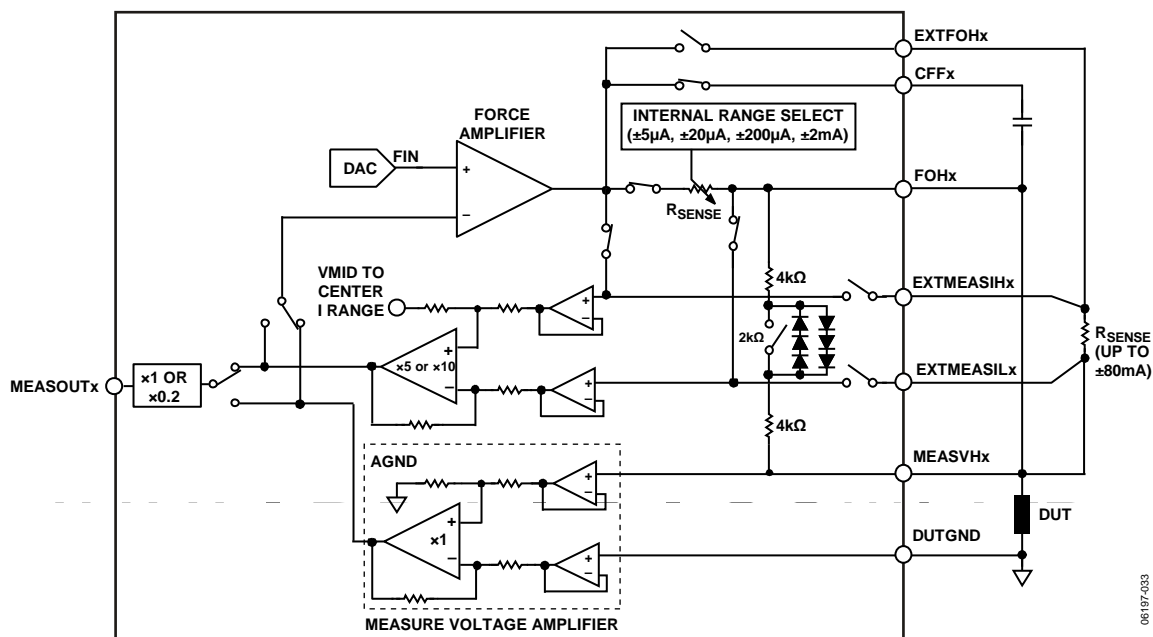

Figure 51. Forcing Voltage, Measuring Current
Most PMU measurements are performed in force voltage/measure current (FVMI) mode, for example, when the device is used as a device power supply, or in continuity or leakage testing. In force voltage (FV) mode, the voltage forced is mapped directly to the DUT. The measure voltage amplifier completes the loop, giving negative feedback to the forcing amplifier (see Figure 51).